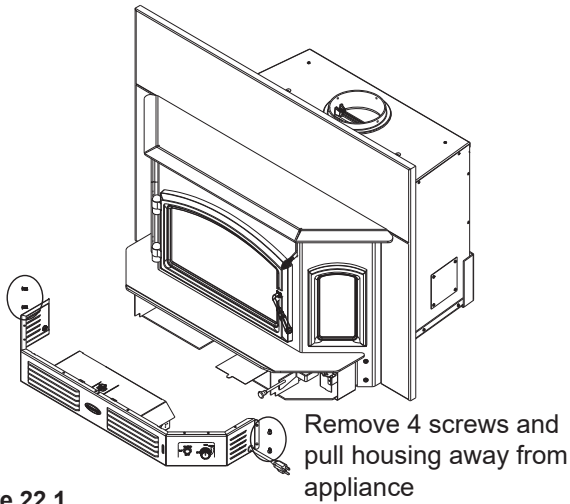

Figure 22.1
1. Using a 5/32 Allen wrench remove the 4 screws from the blower housing (2 on each side) and pull the housing away from the appliance (**Figure 22.1**).